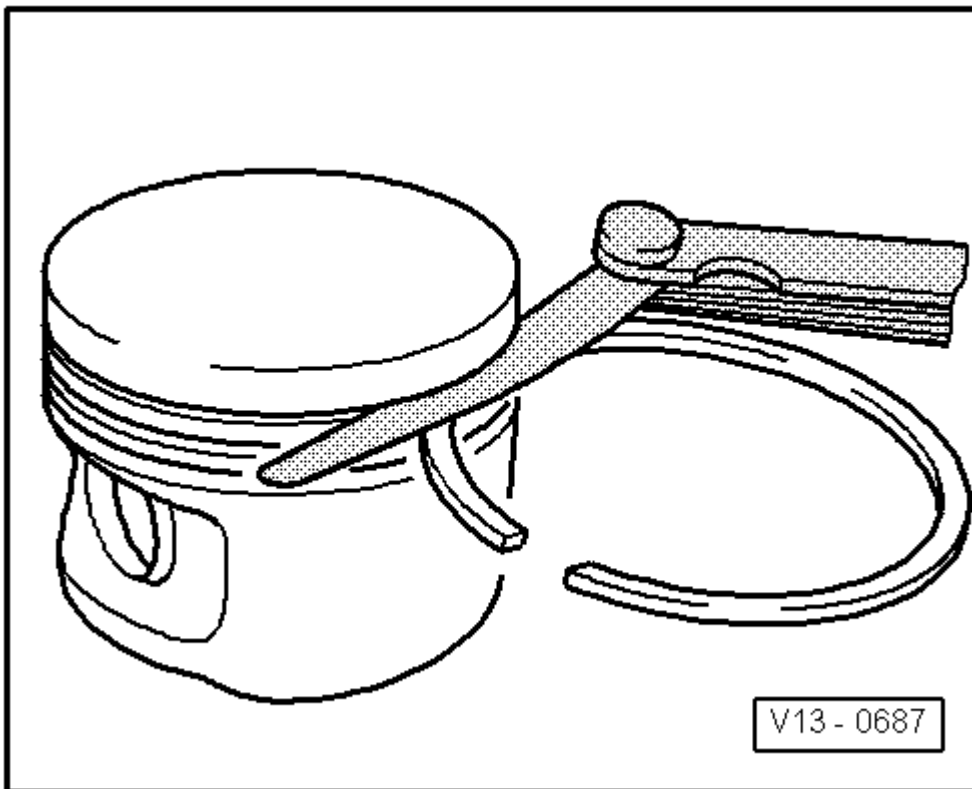

Fig. 15: Identifying Check Of Piston Ring Gap
- Piston ring groove clearance checking, refer to **Fig. 15**.